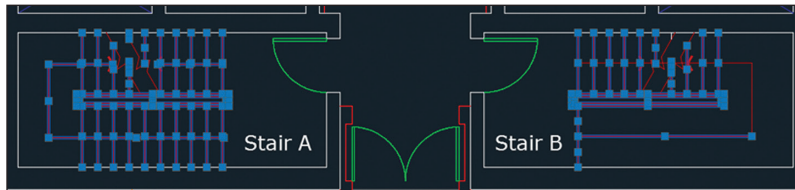

FIGURE 4.9 Selecting similar objects en masse
11. Select one of the vertical tread lines in Stair A by clicking it. Right-click and choose Select Similar from the context menu that appears. All lines on the same layer are selected; you might have to zoom out to see both stairs (see Figure 4.9). Other object types on the same layer remain unselected because they were not similar enough. Press Esc.